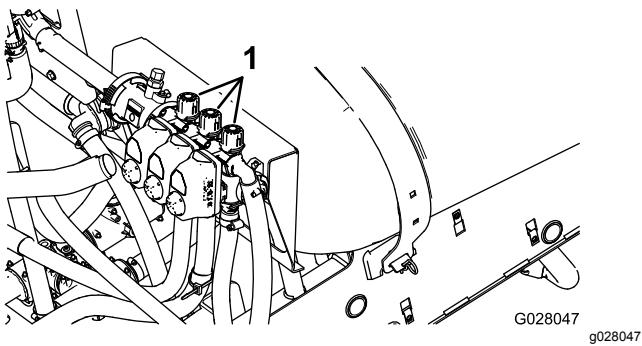

Figure 84
10. Turn off the left boom and adjust the boom bypass valve (Figure 84) until the pressure reading is at the previously adjusted level (typically 2.75 bar or 40 psi).
12. Adjust the right boom bypass valve (Figure 84) until the pressure reading is at the previously adjusted level (typically 2.75 bar or 40 psi).
14. Adjust the center boom bypass valve (Figure 84) until the pressure reading is at the previously adjusted level (typically 2.75 bar or 40 psi).